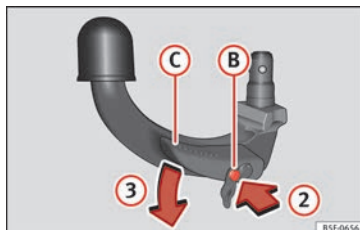

Fig. 227 Step 2
- Press the release bolt ② in the direction of arrow ②, and at the same time press lever ③ in the direction of arrow ③ as far as it will go » Fig. 227.